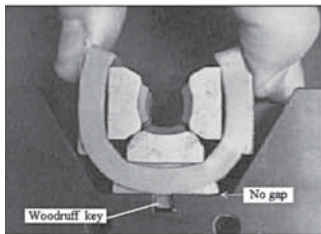

Figure 5
- Place the assembly into the crimper and hold it against the locator flag. Only the ferrule should touch the flag. Operate the screw (Item 1) to close the dies to the full closed position. This will provide the proper compression to achieve a leak-free crimp. When the crimp dies are bottomed out, there will be a slight gap between the two die holders. This ensures that the dies are fully closed before the holders bottom out (Refer to Fig. 5).